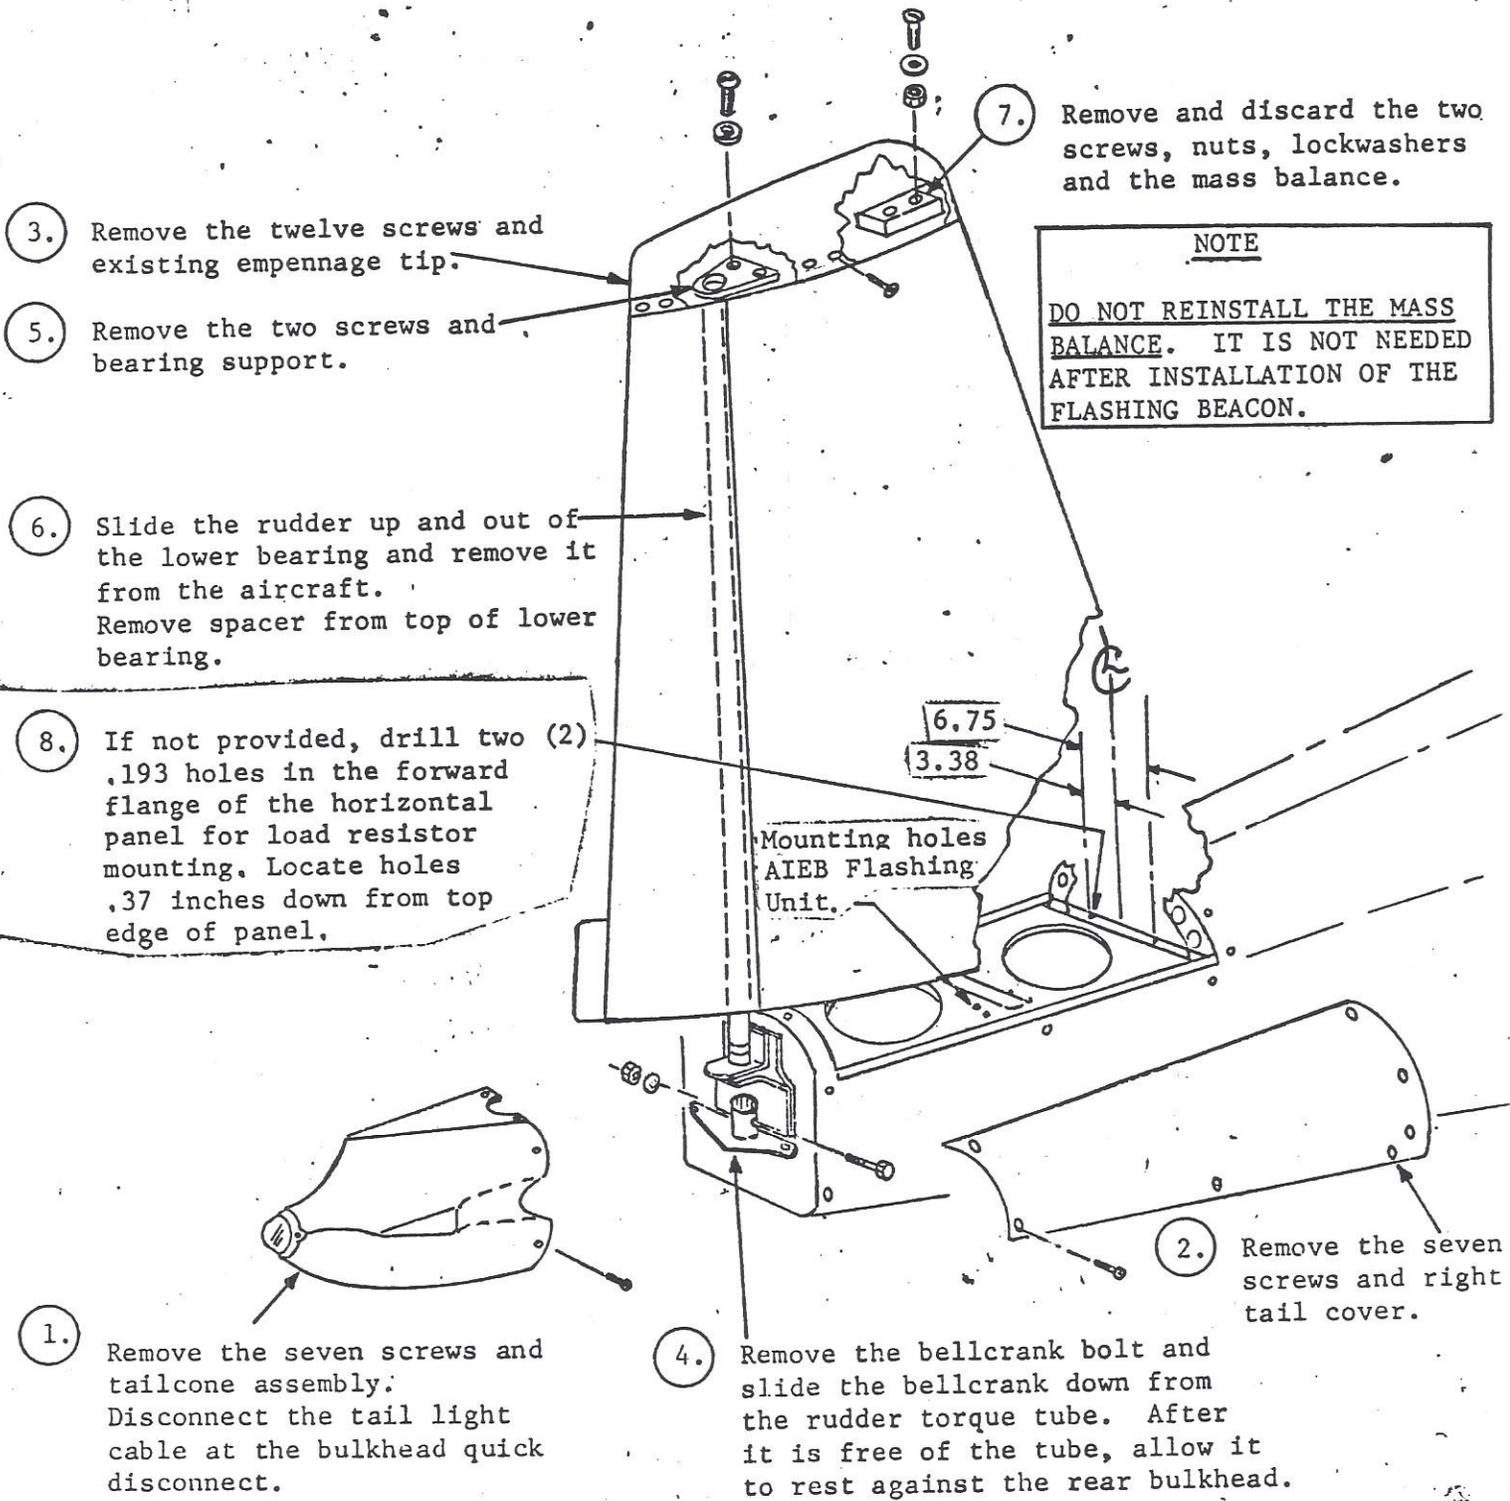

FIGURE 2: Empennage Assembly Preparation for Flashing Beacon Installation
6. Install the AIEB unit, load resistor and flashing beacon as instructed on figures 2, 3, and 4.